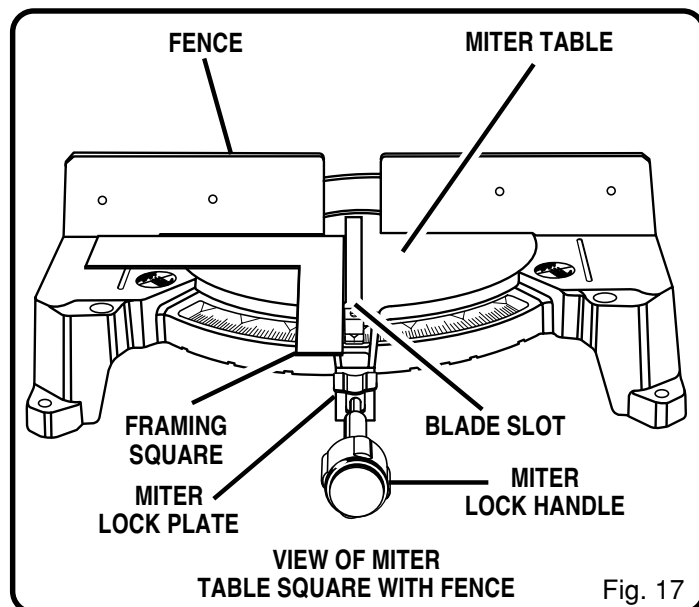

Fig. 17
See Figures 17 - 20.
- Lay a framing square flat on the miter table. Place one leg of the square against the fence. Place the other leg of the square beside the blade slot in the miter table. The edge of the square and the blade slot in the miter table should be parallel as shown in figure 17.